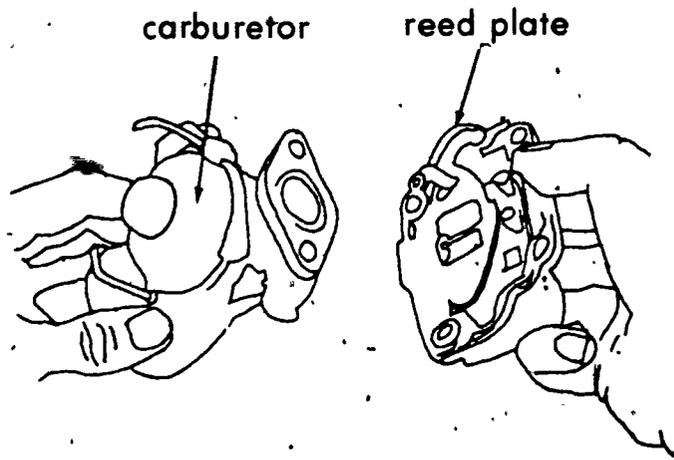

FIGURE 3
G. Remove the intake valve plate from the carburetor on some two-cycle engines (Figure 3)